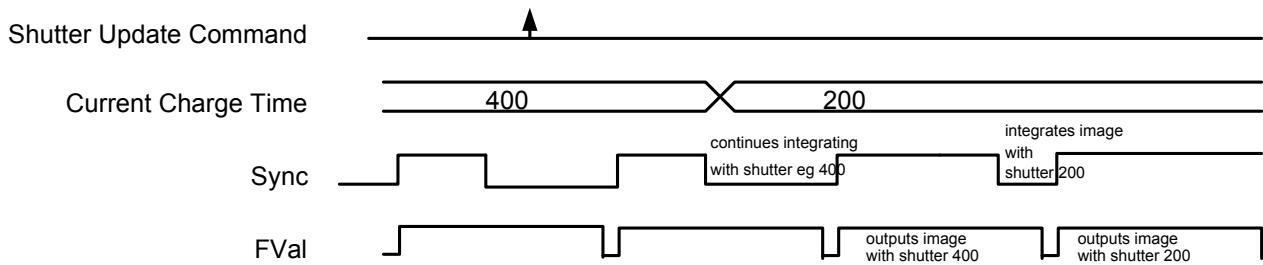

Figure 91: Former standard timing
- The delay from shutter update until the change takes place: up to 3 frames. Figure 91: Former standard timing on page 165 demonstrates this behavior. It shows that the camera receives a shutter update command while the sensor is currently integrating (Sync is low) with shutter setting 400. The camera continues to integrate and this image is output with the next FVal. The shutter change command becomes effective with the next falling edge of sync and finally the image taken with shutter 200 is output with a considerable delay.